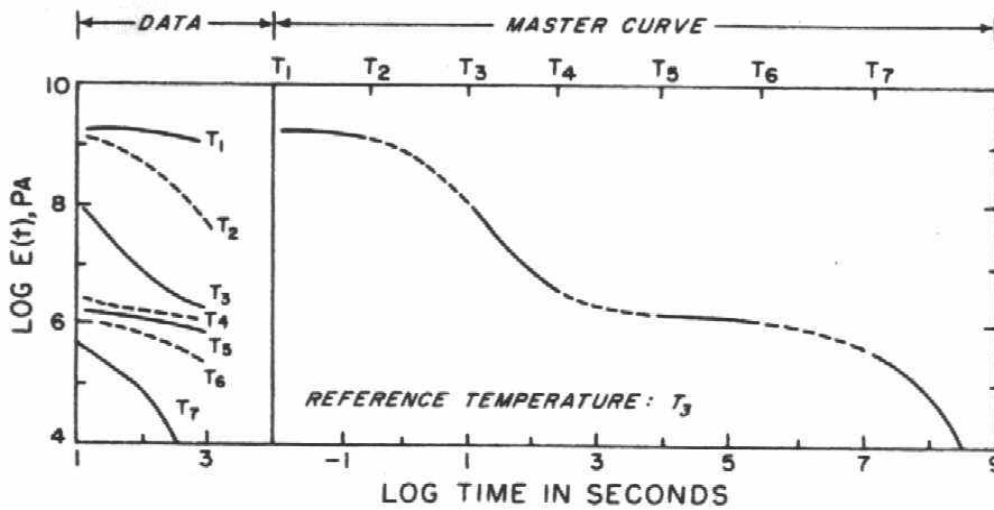

Figure 12. Preparation of a stress relaxation master curve from experimentally measured modulus-time curves at various temperature.
- For longer period of time, measures the  $G(t)$  at various temperatures, then shifts the modulus at different temperatures based on the modulus at reference temperature.  $\Rightarrow$  The "master curve" by the "time-temperature superposition principle" [Fig. 12]. working only for amorphous polymers  $\Rightarrow$  "called "Rheologically simple"